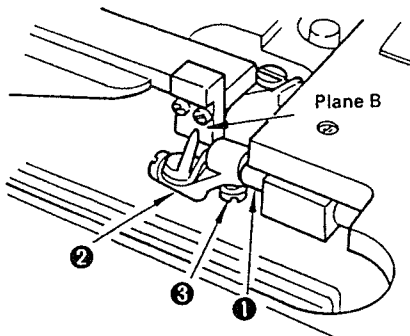

Fig. 14
- ① Position of the looper with respect to the direction of rotation
Fit looper mounting base ② in looper shaft ①, and set the timing gauge on the machine bed as illustrated in Fig. 14. Then press the top end of the looper against plane B of the timing gauge when the looper is in its rear end, and temporarily tighten screw ③.
- ② Adjusting the clearance between the needle and the looper